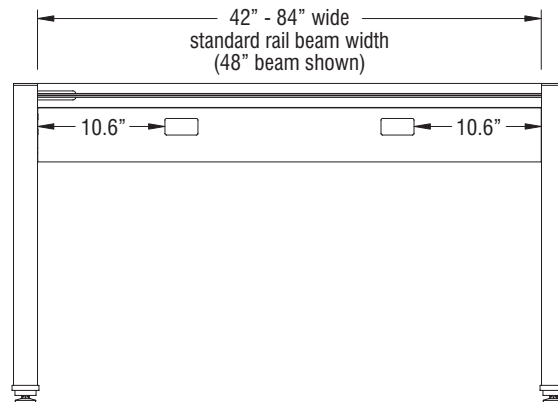

Figure 4 - (front view)
- 42" through 72" beam assemblies offer two receptacle cutout locations per side. If more receptacles are desired, downsize the rail assembly (i.e. one 84" becomes two 42" and the cutout amount doubles) (Figure 4).